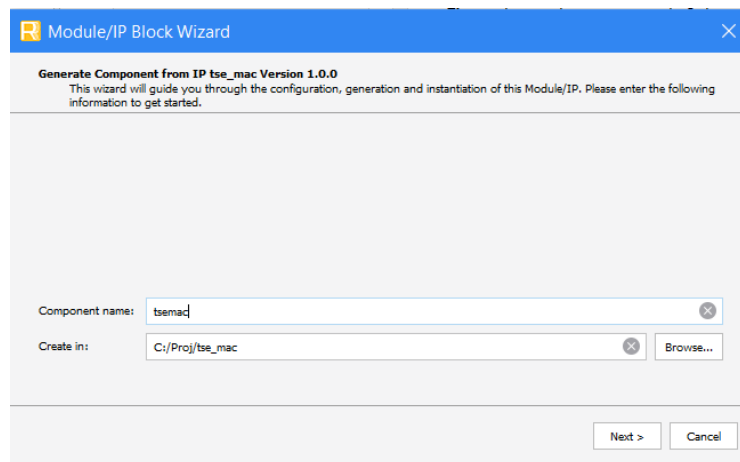

Figure 3-1. Module/IP Block Wizard
2. In the **IP Catalog** tab, double-click on **TSE_MAC** under **IP, Connectivity** category. The **Module/IP Block Wizard** opens as shown in Figure 3-1. Enter values in the **Instance name** and the **Create in** fields and click **Next**.
- Click the **Finish** button. All the generated files are placed under the directory paths in the **Create in** and the **Instance name** fields shown in Figure 3-1.